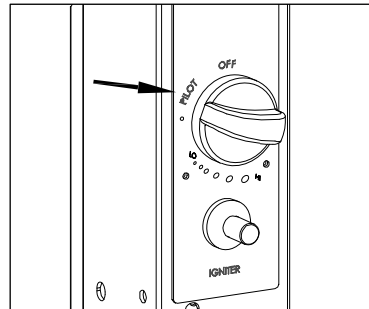

Figure 2
4. Push Control Knob IN and rotate to Pilot position (*Figure 2*).